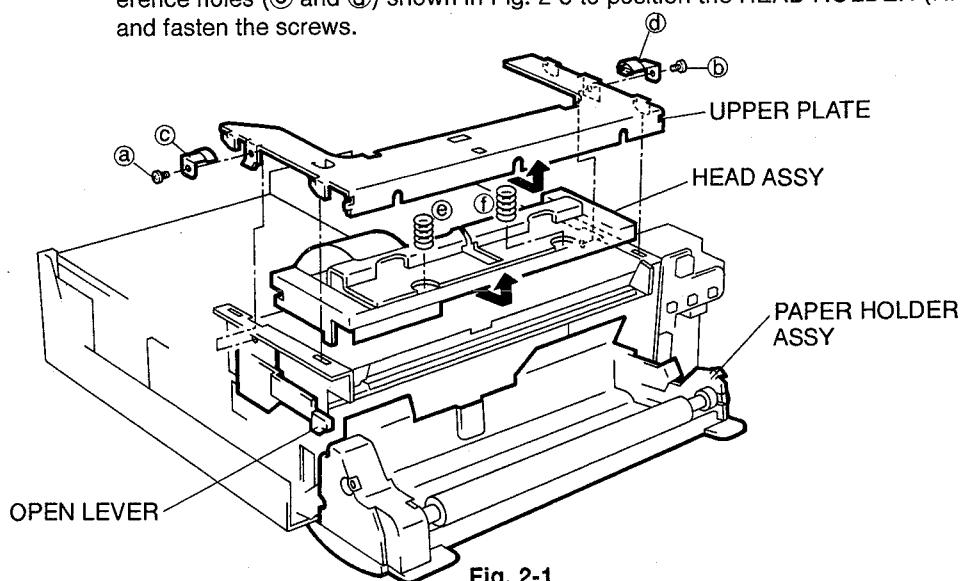

Fig. 2-1
3. Remove two screws (Ⓐ and Ⓑ) securing the UPPER PLATE shown in Fig. 2-1 to remove the UPPER PLATE and two EARTH PLATEs (Ⓒ and Ⓟ).
4. Remove two SPRING (A)s (Ⓔ and Ⓛ) shown in Fig. 2-1.
5. Disconnect all the connectors of the HEAD ASSY shown in Fig. 2-1 to remove the HEAD ASSY.